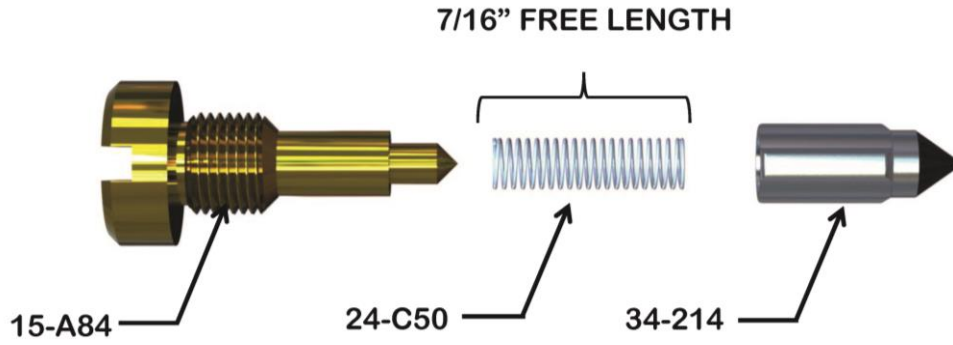

Figure 3, late style check valve components.
Figure 1 shows early style weighted check valve components. Figure 2 shows the early style spring loaded check valve components. Figure 3 shows the components used in the latest style check valve.
5. When the hole accepts the gage pin to a depth of at least one inch, install the 34-214 needle, the 24-C50 spring, and the 15-A84 plug (late style) as shown in Figure 3. Tighten the plug to 20-25-inch pounds of torque.